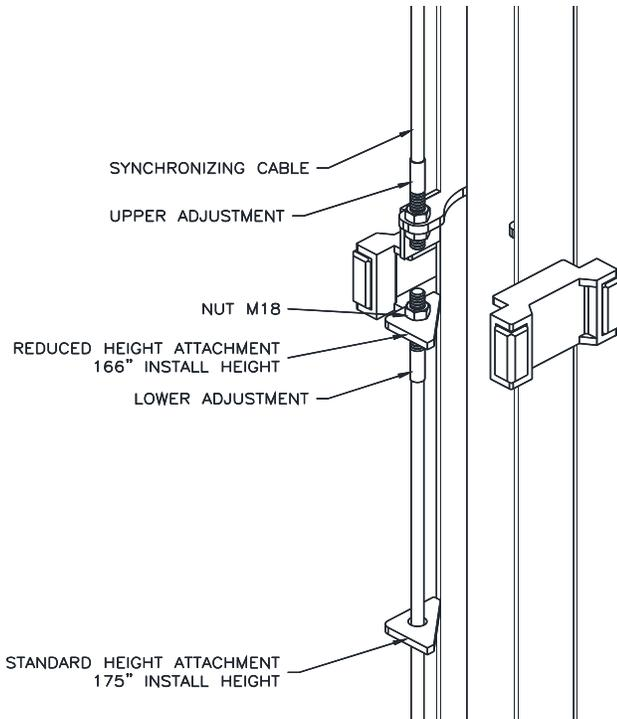

Fig. 6 – Synchronizing Cables
- 18) Attach one end of synchronizing cable to carriage. See **Fig 6** for proper attachment.
- 19) Route cable up and over sheave in overhead. Follow across to other sheave on opposite column. Route down through carriage to sheave in bottom of column. Route under sheave and up to cable attachment. Lower attachment point is used for Standard Height Installation (175") and the Upper attachment point is used for Reduced Height Installation (166"). Use **Fig 6** for proper attachment.